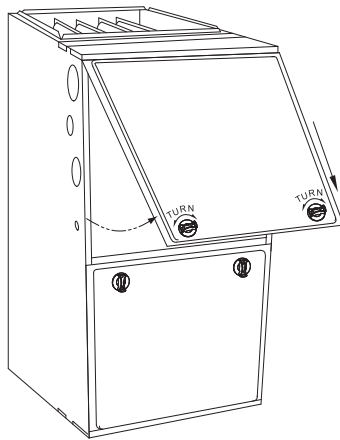

Fig. 10 – Remove Main Furnace Door (Upflow Configuration)
- Remove the main furnace door (see Fig. 10).
4. Remove main furnace door (see Fig. 10).